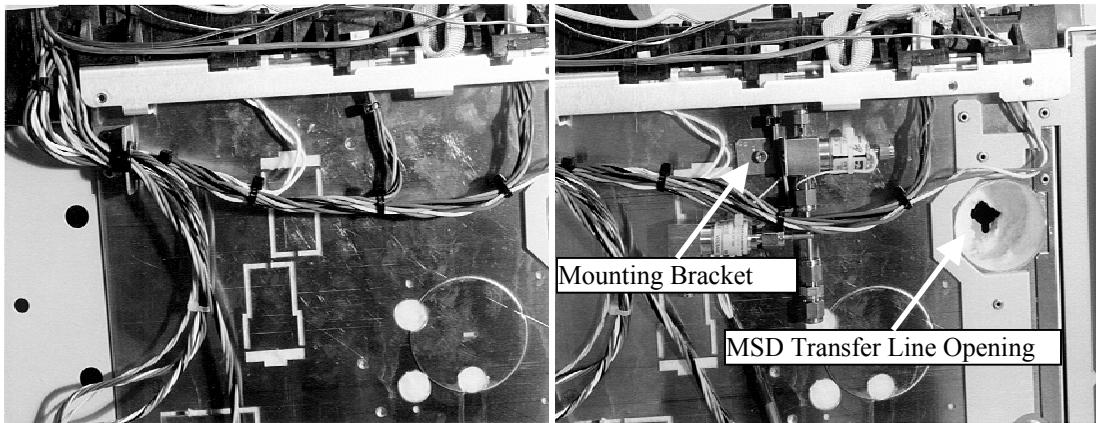

Figure 2-4 – (a) View of left side of GC with side cover removed; (b) valve assembly installed.
7. Install the carrier gas solenoid valve assembly (7859993) using the bracket enclosed with the valve assembly. This valve can be mounted on the left side of the GC with the bracket as shown in Figure 2-4.